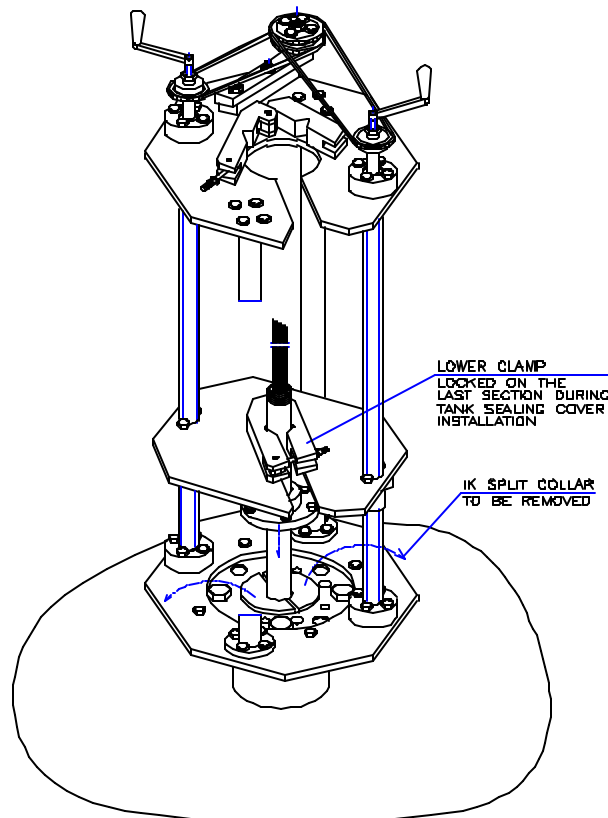

Figure 21
- Remove the **Optional Split Collar** (see Figure 21)